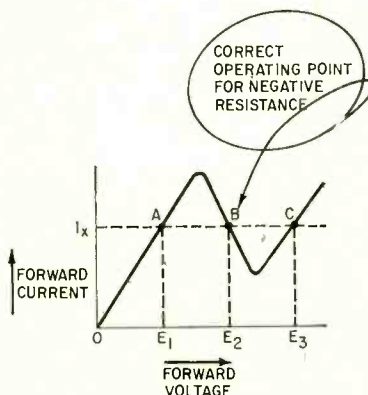

Fig. 1—Conduction characteristic—current  $I_x$  flows at points A, B and C, but only point B is in negative resistance region.
2. Check the dc operating point. That is, run through the diode conduction characteristic (Fig. 1) by varying the dc bias voltage and observing the resulting current. (An identical current reading may be obtained along both the positive and negative slopes but at different voltages. It is necessary to know whether current is increasing or decreasing with voltage.) The proper operating point for most experiments is in the negative-resistance region, where current decreases as voltage is increased. Thus, in Fig. 1, the same current flows at point A, (voltage  $E_1$ ), point B ( $E_2$ ) and point C ( $E_3$ ), but only point B is in the negative-resistance region.